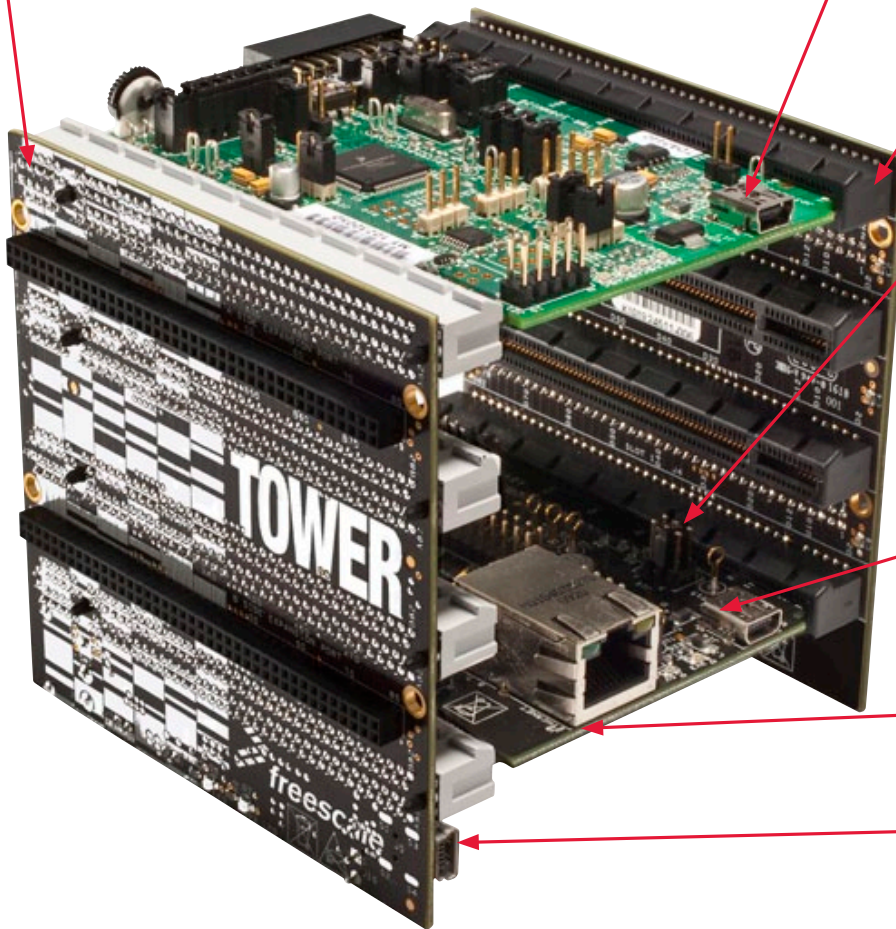

Figure 2: Tower System Assembled
NOTE: Figure 2 is a Tower System without the optional MED-EKG assembly. For details on how to assemble the MED-EKG, please refer to Lab 1 on the DVD.
1. Build the Tower System as shown in Figure 2, and make necessary configurations according to the notes that point to the component settings.